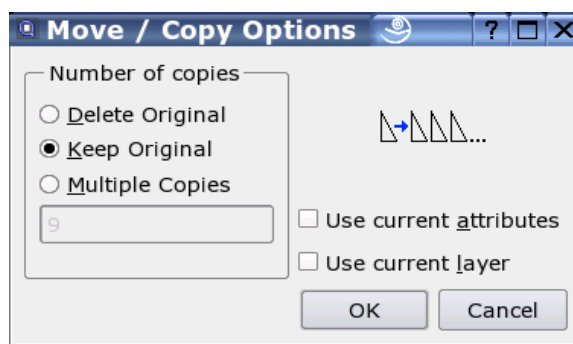

Figure 50: Move options dialog.
5. The move dialog is displayed (Figure 50). To move the entities, choose "Delete Original", to copy them choose "Keep Original". You can also create a number of copies at once by choosing "Multiple Copies" and entering the number of copies in the text line below. Note that '9' will create 9 copies and keep the original - so there will be 10 instances of the selected entities in the end. The copies will have the same attributes and be on the same layer as the original entities. To change that default behavior, you can check "Use current attributes" or "Use current layer".